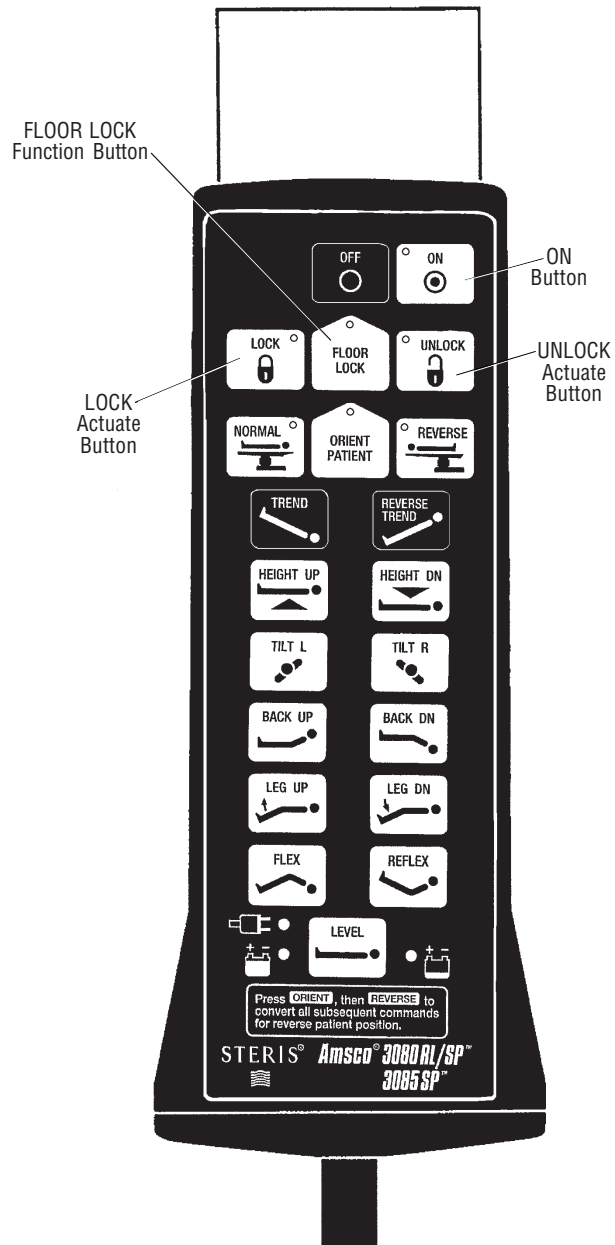

Figure 3-4. Standard Hand Control
Refer to Figure 3-4 for identification of hand control functions. See *SECTION 7, TROUBLESHOOTING*, to identify any problems with the hand control.
2. Press **FLOOR LOCK** Function button in center row of control buttons, and **within five seconds** press **LOCK** button (to the left of **FLOOR LOCK** button, see Figure 3-4). Table is locked in position as floor locks are lowered and casters are raised. Table will remain locked (immobile) until **UNLOCK*** function is actuated.
* To unlock table, press the **FLOOR LOCK** button in the center row of control buttons, and within five seconds press the **UNLOCK** button adjacent to it on the right (see Figure 3-4). Floor locks will retract and table will rest on casters.